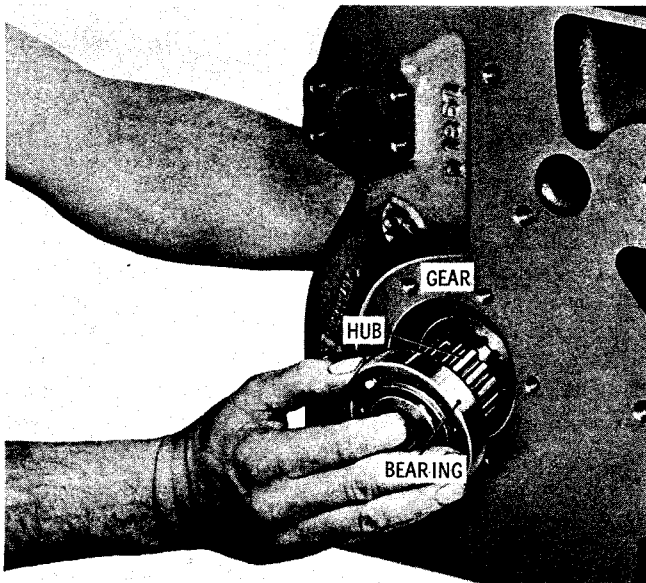
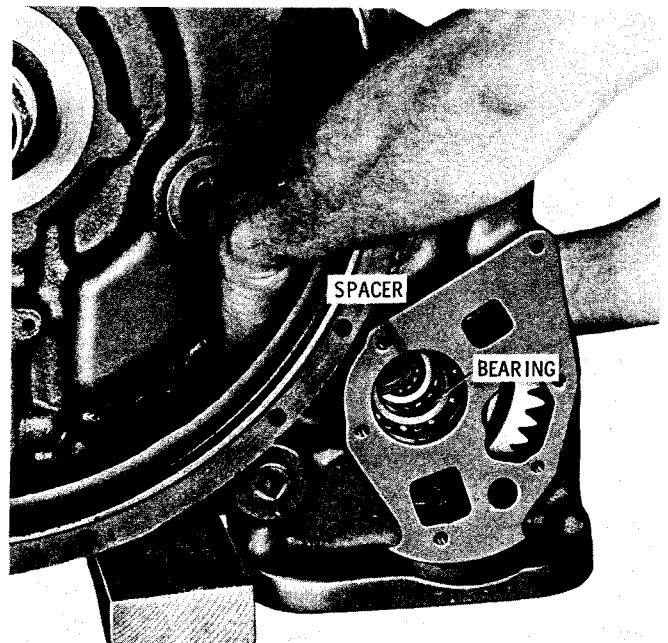

Fig. 7-56. Installing pump drive gear hub
Fig. 7-57. Installing pump drive gear spacer
(2) Support the pump drive gear with one hand and, with the other hand, engage the pump drive gear hub and bearing by pushing it halfway into the pump drive gear (fig. 7-56). Partial installation of the gear hub will allow space for the gear spacer (fig. 7-57).
(3) Support the gear hub and bearing with one hand and, with the other hand, install the pump gear spacer. Push the gear hub through the spacer and all the way into the pump gear (fig. 7-57).